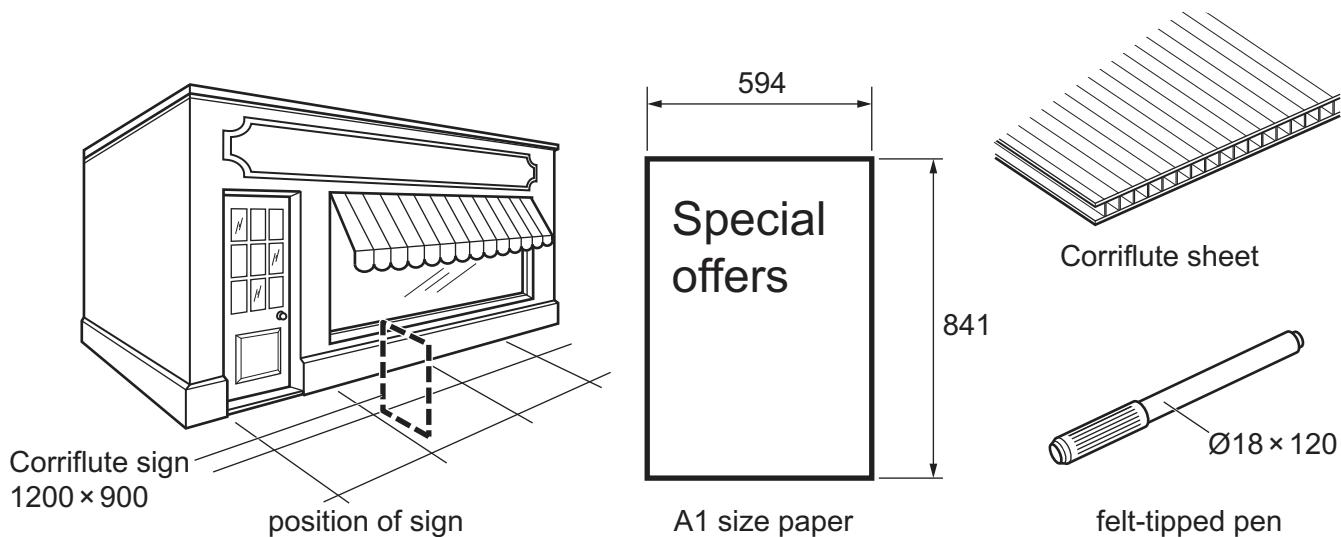

Fig. 8.1
8 Fig. 8.1 shows details of a freestanding sign that is to be made from Corriflute. The sign will be used outside a shop to advertise special offers.
- (a) Use notes and sketches to **develop** a design for a freestanding Corriflute sign of the size shown in Fig. 8.1. The sign must be formed from a one-piece development (net). [20]
- (c) Use notes and sketches to **develop** a design for a method of attaching an A1 size sheet of paper onto the freestanding Corriflute sign designed in part (a). The method of attachment must also include a means of holding the felt-tipped pen shown in Fig. 8.1. [20]